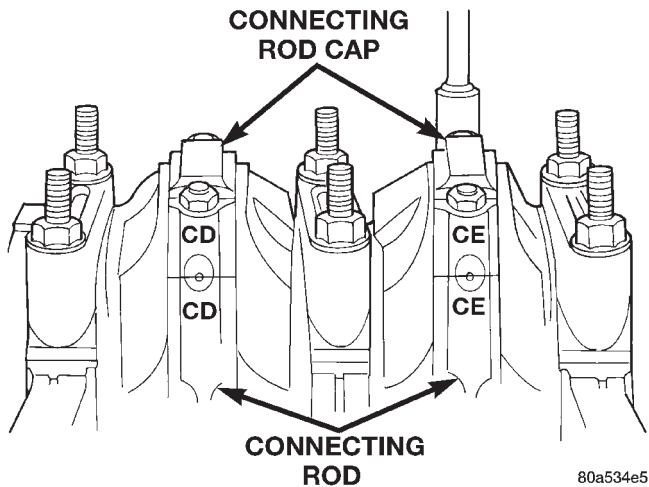

Fig. 57 Stamped Connecting Rods and Caps
(10) Remove the connecting rod bearing caps and inserts. Mark the caps and rods with the cylinder bore location. The connecting rods and caps are stamped with a two letter combination (Fig. 57).